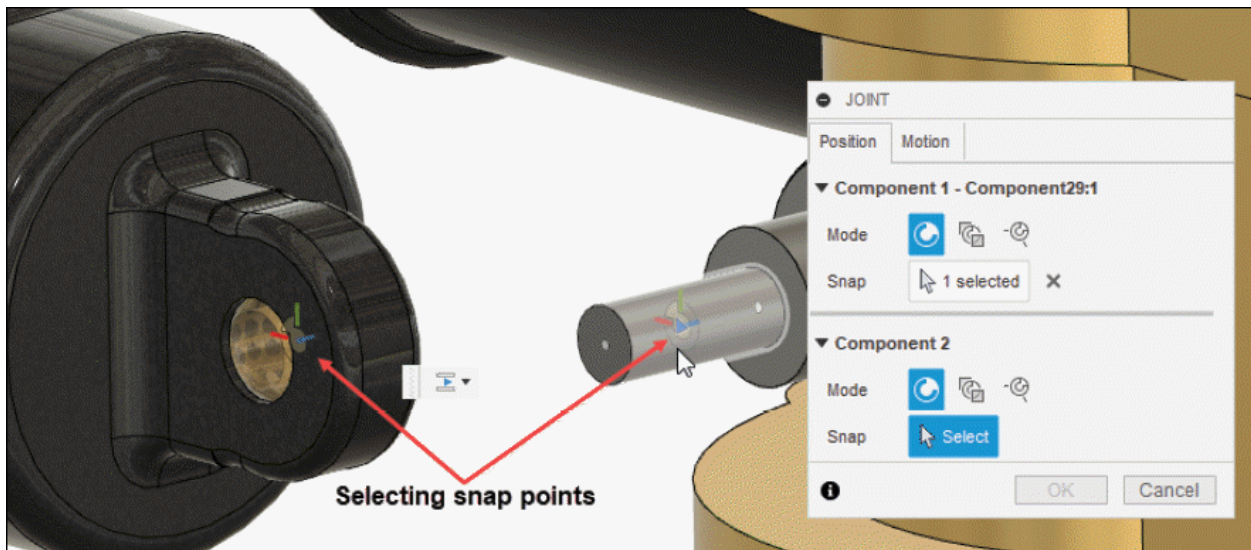

Figure-99. Selecting snap point on components
- Select snap point on both the Component 1 and Component 2 as shown in Figure-99.